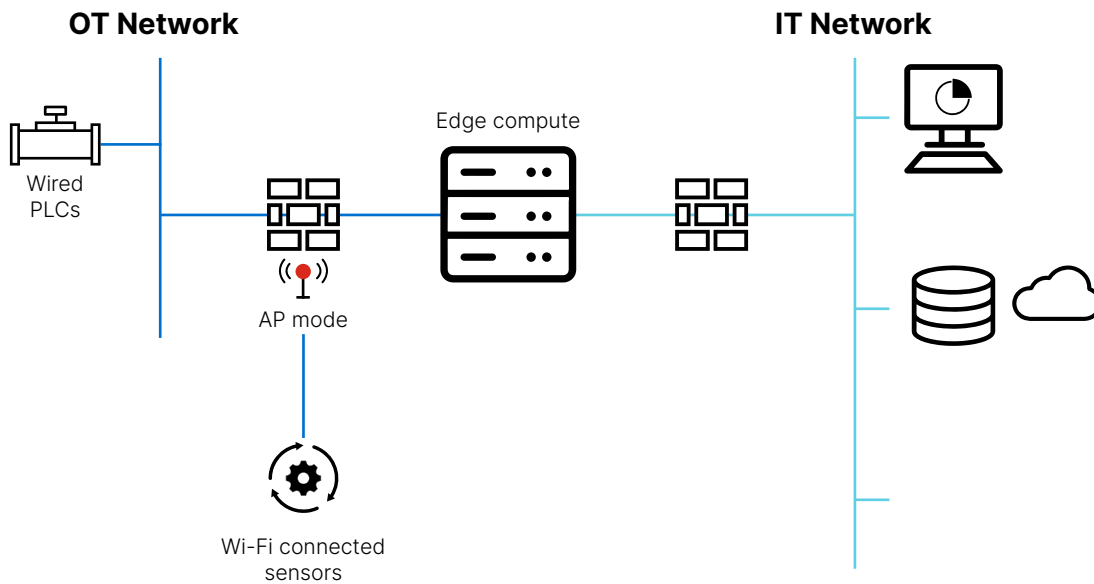

Figure 10: FortiGate in AP mode.
The FortiWiFi series of firewalls mentioned previously have the ability to switch the Wi-Fi configuration of a Wi-Fi client to that of an access point (AP). (AP is the default out-of-the-box configuration.) This allows FortiWiFi to present a Wi-Fi service set identifier (SSID) to the IoT devices, thereby allowing the required security policies to be implemented. The simplest solution utilizes the FortiGate itself to provide the Wi-Fi network for the OT sensors. This is shown in Figure 10.